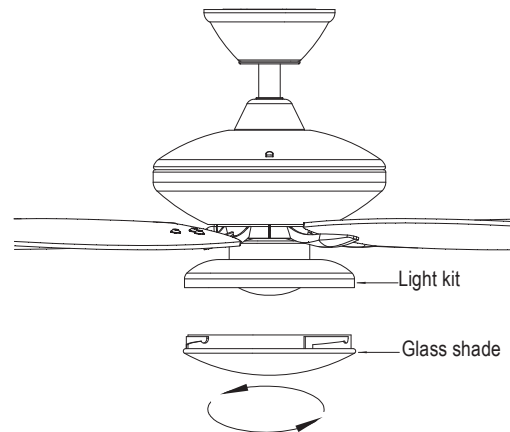

Fig. 17
Step 1. Raise the glass shade against the light kit and turn clockwise until snug, DO NOT OVERTIGHTEN. (Fig. 17)
Cool weather - Reverse (clockwise) An upward airflow moves warm air off the ceiling area as shown in Fig. 17. This allows you to set your heating unit on a cooler setting without affecting your comfort.